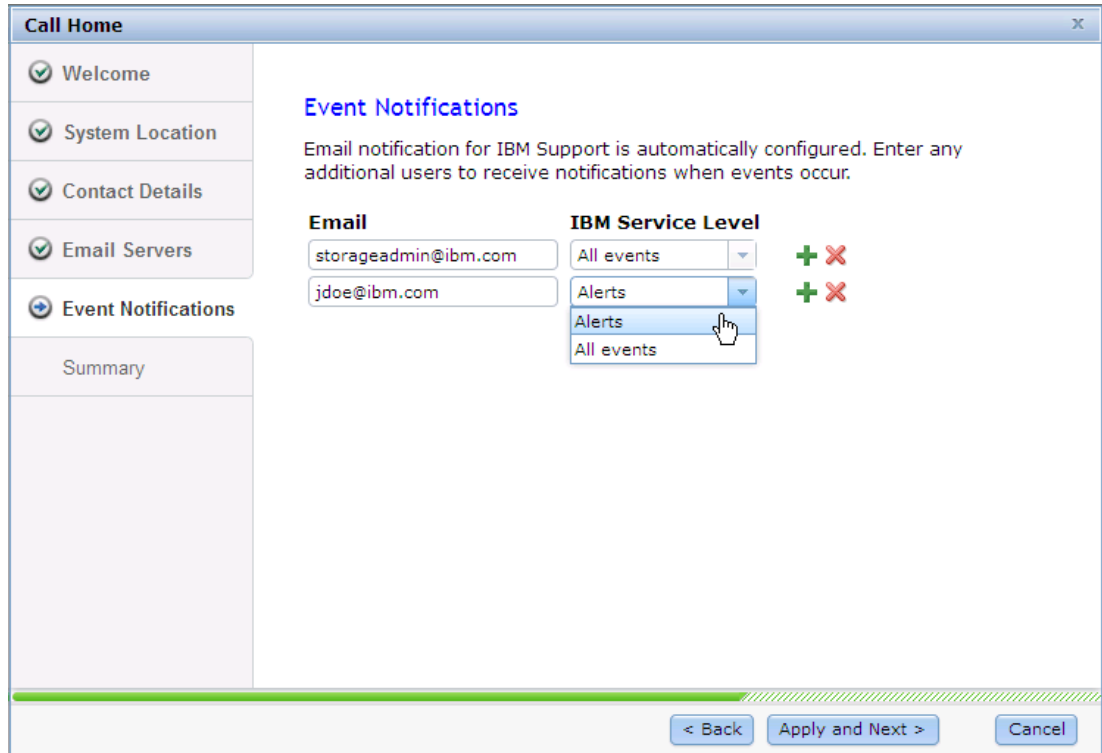

Figure 2-31 Event notifications
1. You will need to setup to whom you wish to receive these notifications. Figure 2-31 on page 54 shows you that you can configure alerts or all events to be sent to specific users.